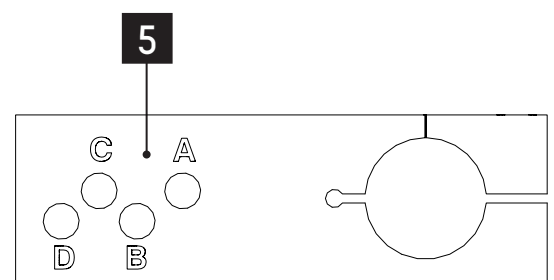

Fig. 26 - Detail of fixing points on the spring jaw
- (1) Spring position on lever: mark: {5} ⇒ Fig. 26, page 29.